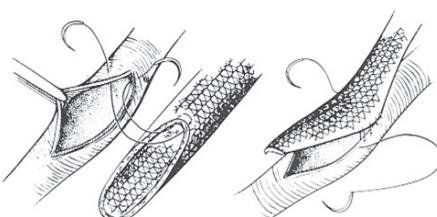

Fig. 5
2. Monofilament polypropylene is the preferred suture material. During suturing evert the edges of the prosthesis and ensure the full wall thickness and a mesh eyelet are taken up with each stitch. Fig. 5. It is advised to only use non-cutting needles when suturing.